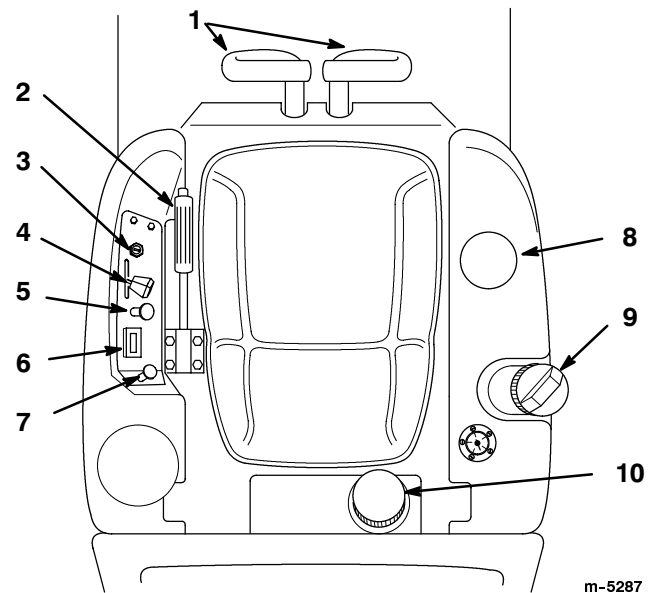

Figure 8
Become familiar with all the controls before you start the engine and operate the machine (Fig. 8).
1. Move the motion control levers to neutral (Fig. 8).